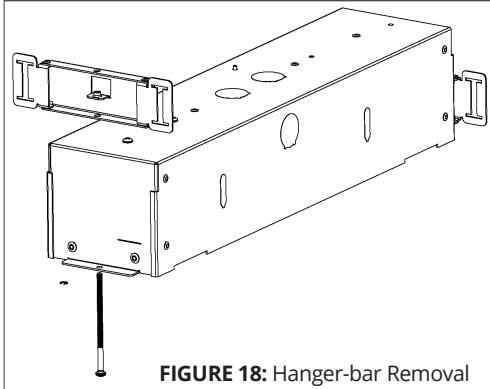

FIGURE 18: Hanger-bar Removal
3. Route the wire harness and quick connector around the transformer and out the "end" wire entry [Figure 18].
1. Remove Hanger-Bars & Screws: Carefully take out the hanger-bar assemblies and remove the screws from both ends of the back-box. [FIGURE 18]